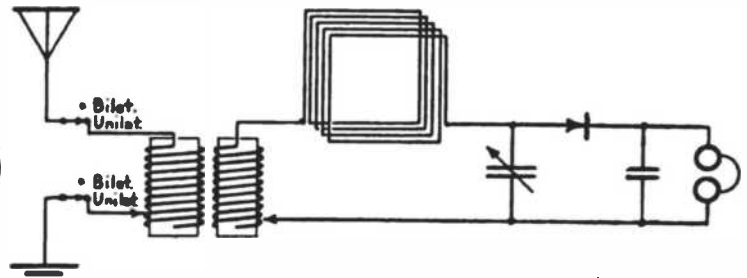

Fig. 11. Either system can be used by changing the compass switch
1. Signals are first received with close coupling between the primary and secondary, with the compass switch at Bilateral, Fig. 11. This gives a non-directional effect and maximum receiving efficiency.